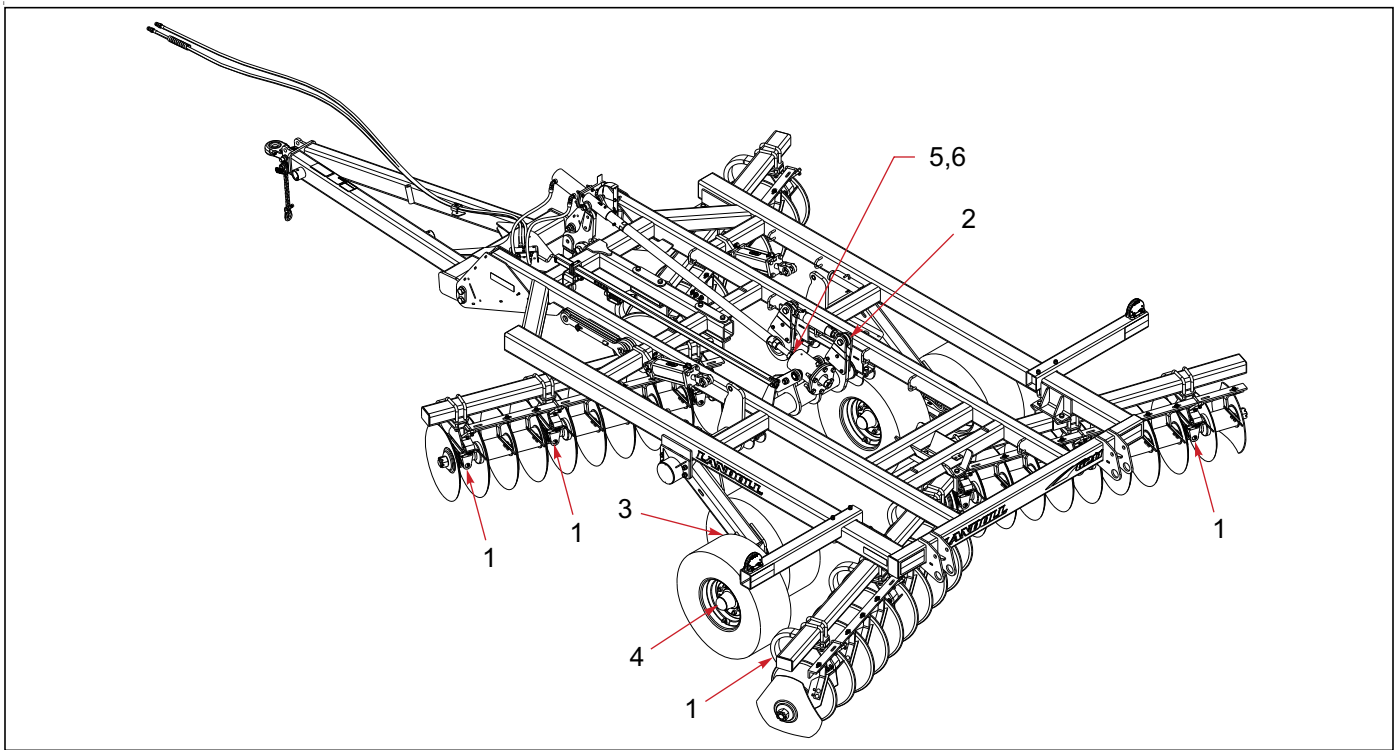

Figure 4-19: Lubrication Schedule
1. **Table 4-1** specifies the number and the period of lubrication points on the 6211 Disc. Proper maintenance of your machine will, under normal operating conditions, help to keep it operating at or near its peak performance for an extended period of time. Proper maintenance is also a condition of keeping your warranty in good status **(See Figure 4-19.)**